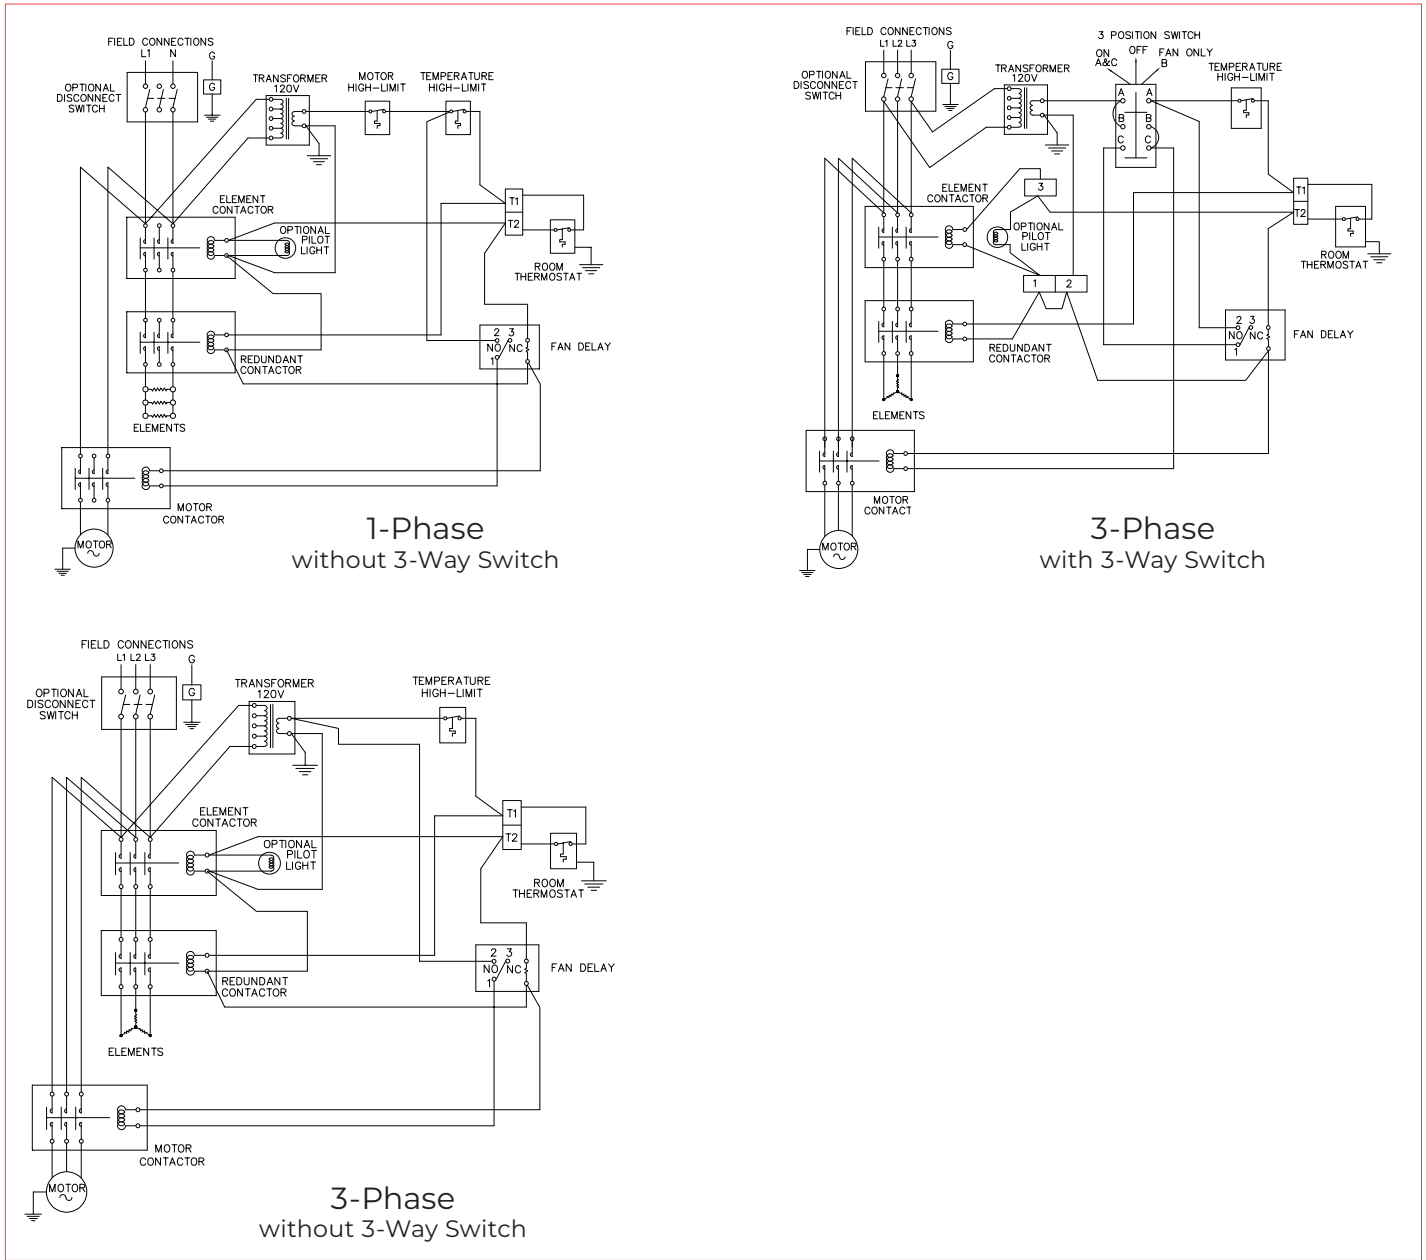

Figure 6
1. To operate heater, ensure power supply is properly connected as specified in the wiring schematic (see figure 6 on page 6).